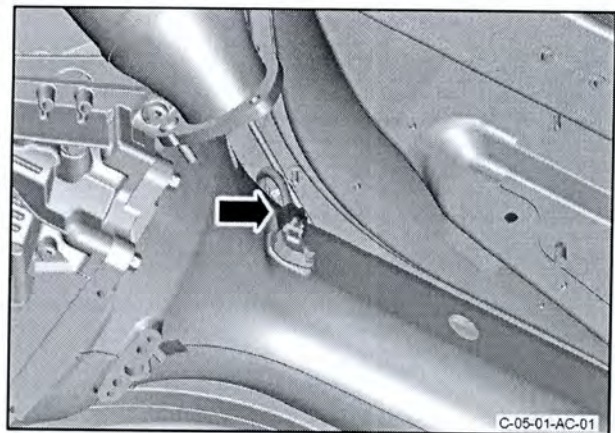

Figure 31
56. Disconnect the electrical connector from the speed sensor for the propeller shaft (refer to Figure 31).